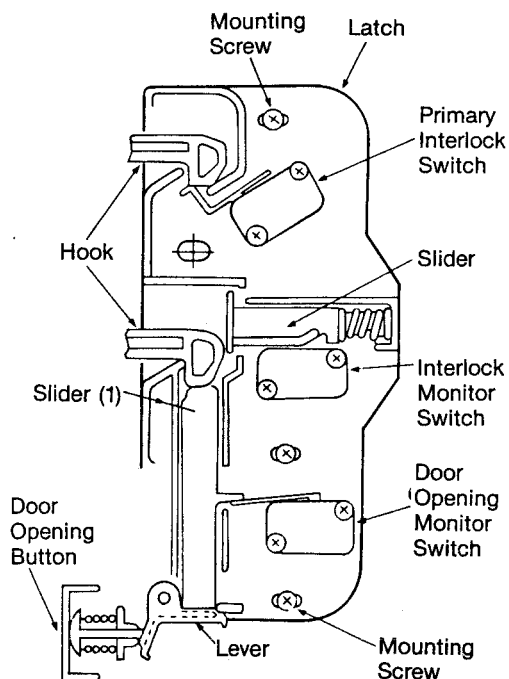

Fig. 9
If the door is not closed properly, the oven will not Operate. Fig. 9 shows the closed door condition. When the door is closed, the tip of the top hook presses the lever of primary interlock switch, and the lower hook pushes the slider of the interlock monitor switch to bring it to open, and the tip of the hook pushes the slider (1) and then the slider (1) presses the lever of secondary interlock switch to bring it under "ON" condition. (Fig. 9).